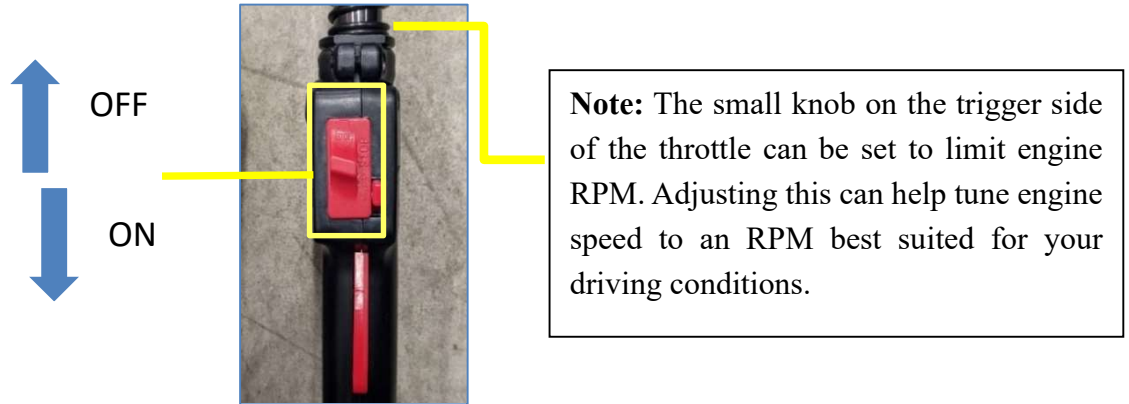

Figure 8: Start/Stop switch located on the throttle handle.
6. To turn OFF the engine, slide the STOP SWITCH UP (see Figure 8).